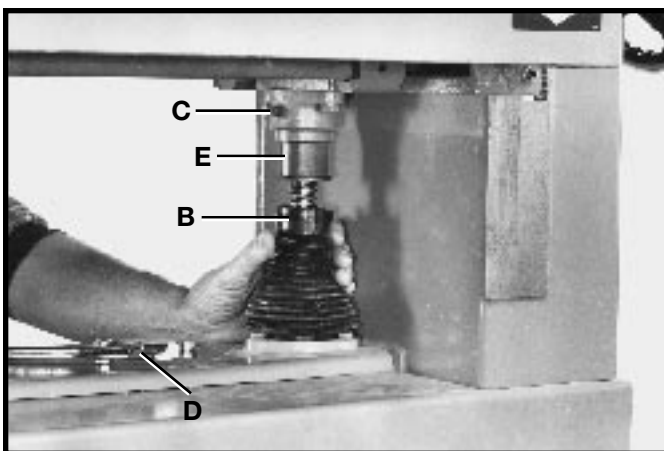

Fig. 51
5. If the table is not parallel to the cutterhead, lower boot (B) Fig. 51, which is located underneath the table. **NOTE:** Table elevating handwheel must be unlocked when making this adjustment.
6. Loosen lock screw (C) Fig. 51, and with large pliers (D) turn adjustment sleeve (E) as necessary until table is parallel with the cutterhead. Tighten lock screw (C) after adjustment is made and replace boot (B). **NOTE:** The same adjustment can also be made on the other side of the planer if necessary